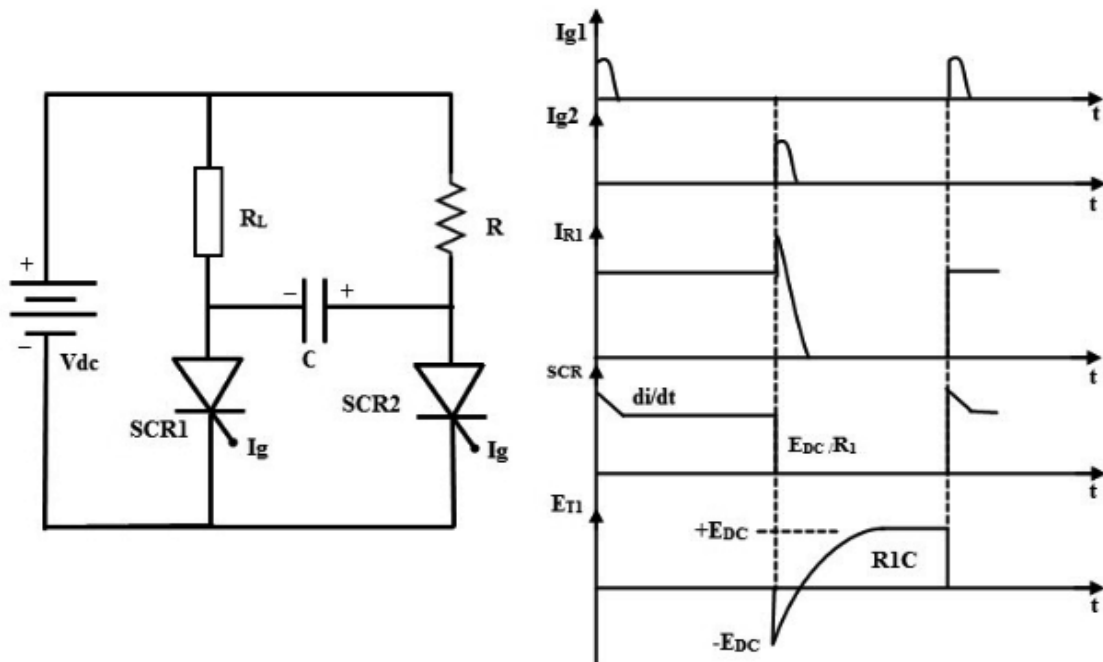

Fig. 6.1 Class C commutation circuit
1. Make the circuit connection as per the circuit diagram shown in fig. 6.1.